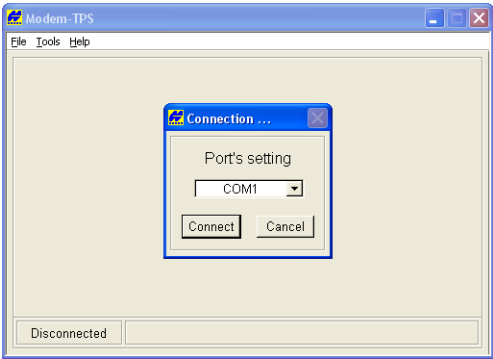

Figure 3-1. Connect to Modem-TPS
- 2. Open Modem-TPS and select the COM port the receiver is connected to (Figure 3-1). Click **Connect**.